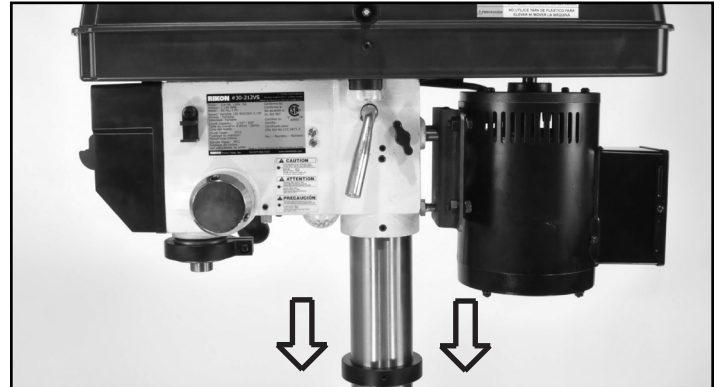

FIG. 5
1. Carefully lift and place the drill press head onto the top of the column. It should slip down until the column stops against the inside end of the head casting hole. Swivel the drill press head until it is in line with the base and table, with the control panel facing forward. FIG. 5.